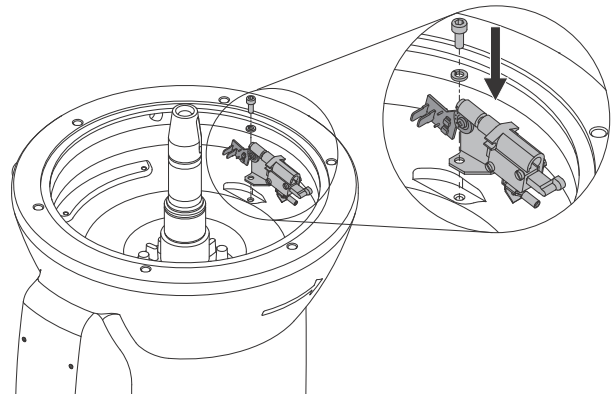

Fig. 15 Mounting the moisture switch
6. Fit the moisture switch to the stator housing (55). See fig. 15.
2. Fit the moisture switch (520) by means of its screw and washer to the stator housing. See fig. 15.